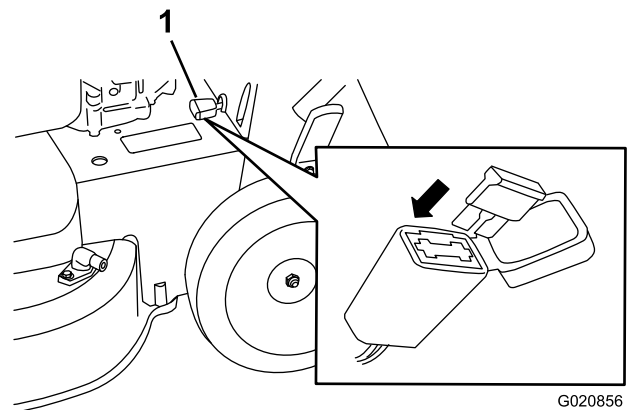

Figure 33
1. Open the sealed fuse holder and replace the fuse (Figure 33).